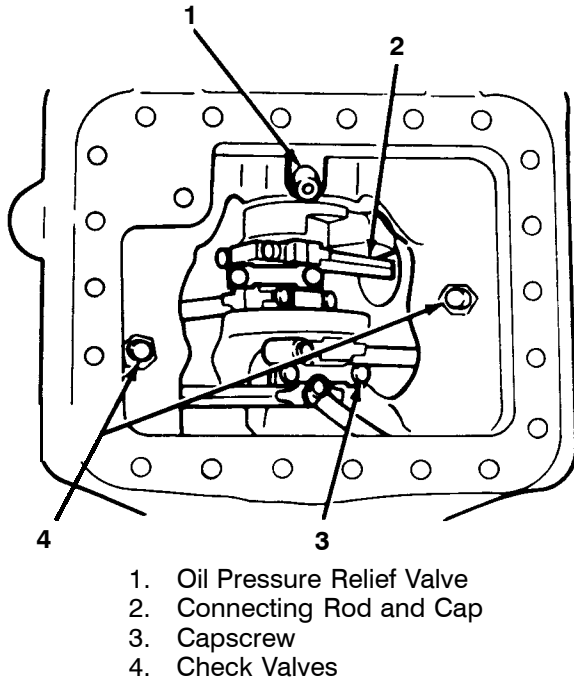

Figure 3-11. Bottom Plate and Oil Strainer Removed
3. Match mark each connecting rod cap and connecting rod for correct reassembly. Remove the cap screws, flat washers and connecting rod caps. It is recommended that the cap screws and flat washers be discarded and new cap screws (special) and flat washers be installed during compressor reassembly. (See Figure 3-11)
2. Remove and check operation of oil return check valves (See Figure 3-11). The check valves are free floating devices and can easily be checked visually.
3. Remove and check oil pressure relief valve (See Figure 3-11). The oil pressure relief valve is a spring
3. Check operation and reinstall check valves and relief valve. (See Figure 3-11). The check valves are free-floating devices and can easily be checked visually. The relief valve is a spring-loaded device which can be checked by using a small piece of stiff wire to ensure that the spring mechanism can be depressed.